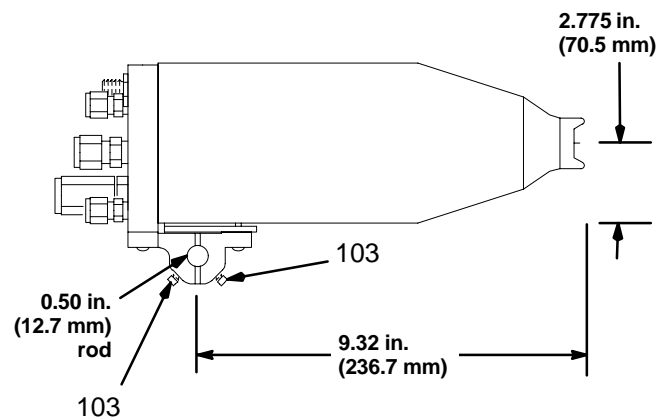

Fig. 5
1. Loosen the two square head bolts (103), and slide the mounting bracket onto a 0.50 inch (12.7 mm) mounting rod. See Fig. 5.
2. Position the gun, and tighten the two bolts (103) securely.